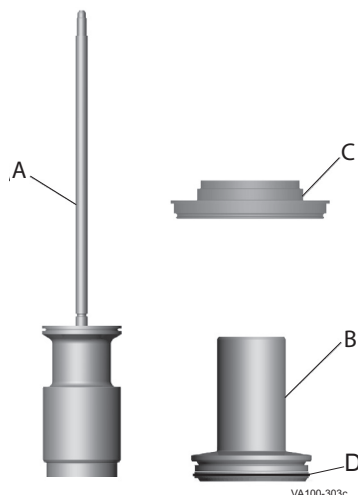
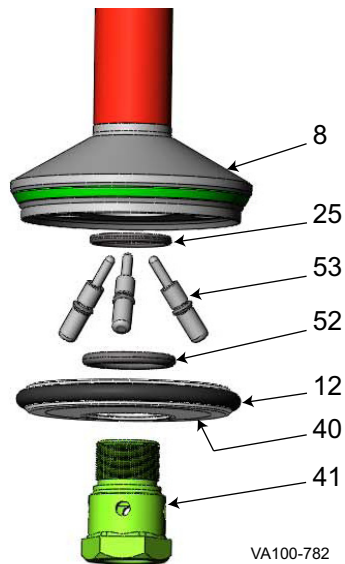

Figure 7 - Stem Removal
Figure 8 - Upper Stem Detail
The seat cleaning movements are fixed at 0.16" upper and 0.28" lower. Confirm the stroke lengths after proper assembly of the upper stem (Figure 7, item B) and nut (Figure 14, item N). Tighten both clockwise until stopped, metal to metal.
2. To remove the upper stem (Figure 7, item B and Figure 8, item 8), turn the stem counter-clockwise and remove it from the actuator. If the adapter (Figure 7, item C) comes out of the yoke, handle it with care. The vent separator is retained to the upper stem. To re-install, tighten it clockwise until it is stopped.
3. See Figure 8 on page 21. To remove the vent separator from the insert, grasp the upper stem (item 8) firmly and unscrew the retaining bolt (item 41).
Table 4: Callout table for Figure 7
Table 5: Callout table for Figure 8